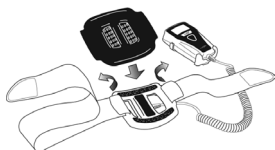

Figure 2
5. Replace liner pad. (Figure 2)